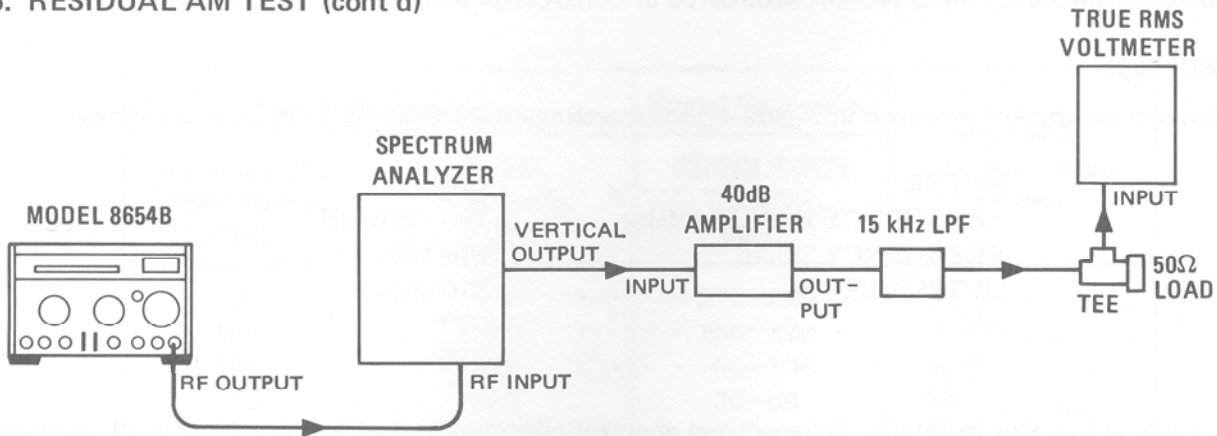

Figure 4-2. Residual AM Test Setup
1. Connect equipment as shown in Figure 4-2 after setting Signal Generator controls as follows: